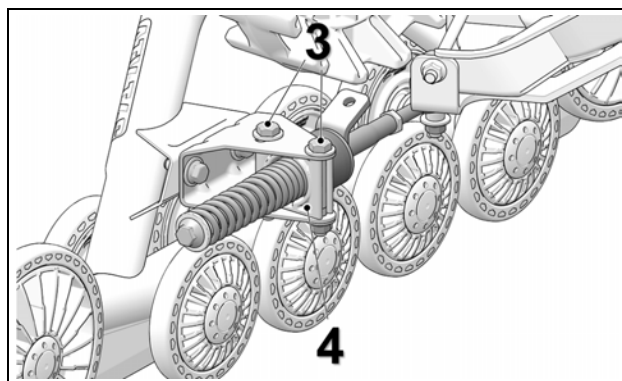

Figure 15
- Loosen anti-rotation bracket bolts (3) to allow the anti-rotation retainer (4) to rotate on its axis. See Figure 15.